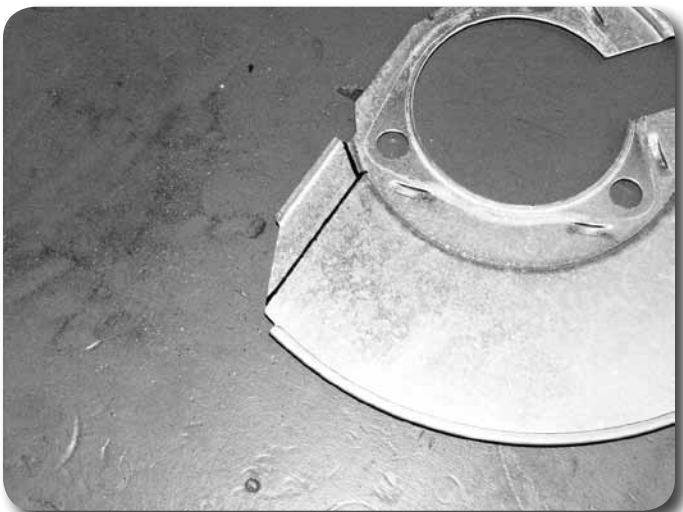

Figure 25
51. The brake dust shield needs to be trimmed. Measure in from the lower vertical edge (opposite the ABS sensor location) $\frac{3}{4}$ " and make a vertical cut line along the entire flat section **Figure 25**. Cut the mark section off of the brake dust shield.